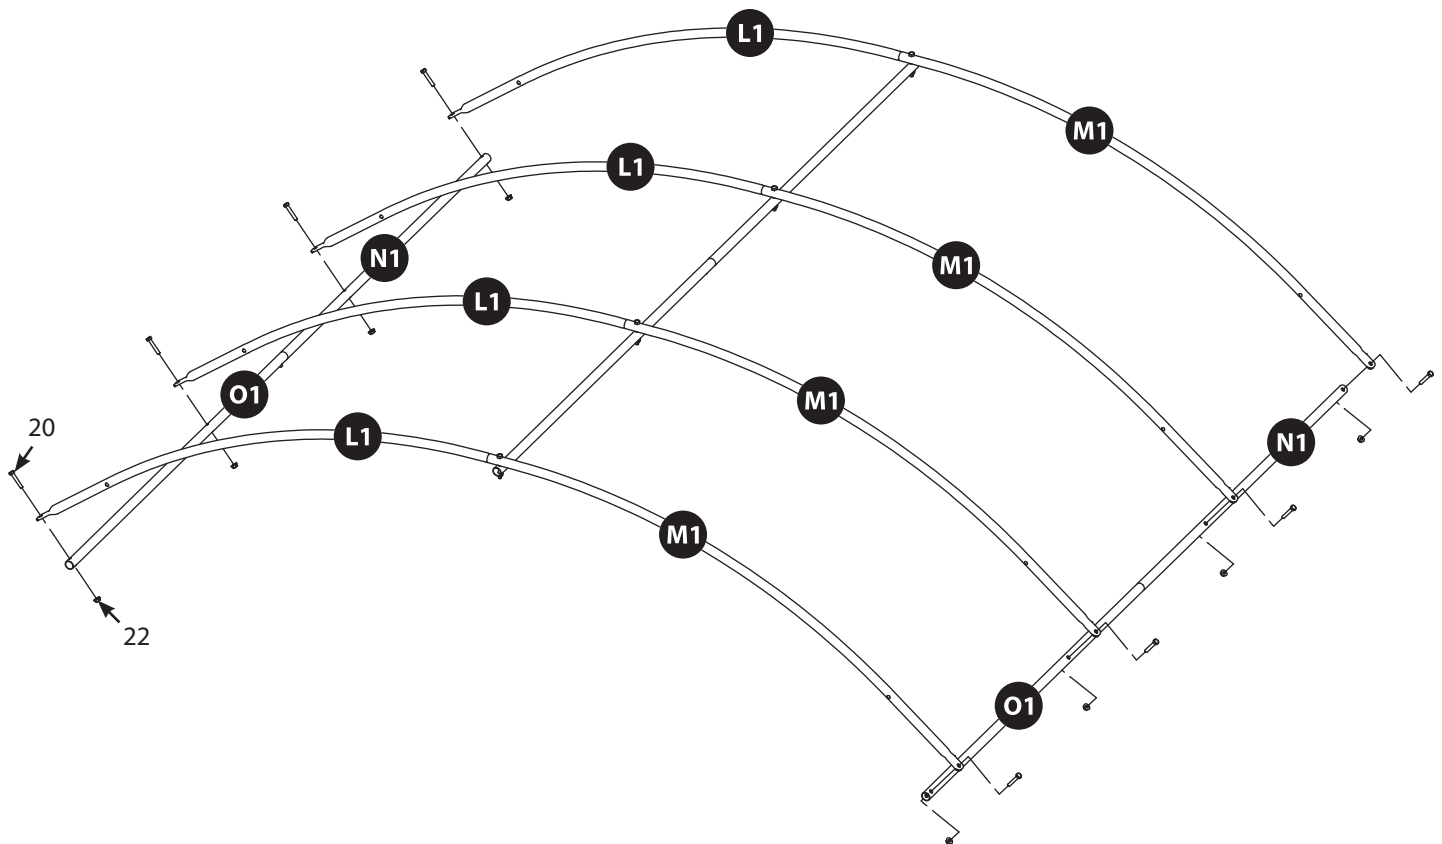

FIGURE 12
24. Attach remaining two assembled N1 and O1 poles to the ends of the L1 and M1 poles using eight M6 x 35mm bolts (20) and M6 nuts (22). **SEE FIGURE 12.**